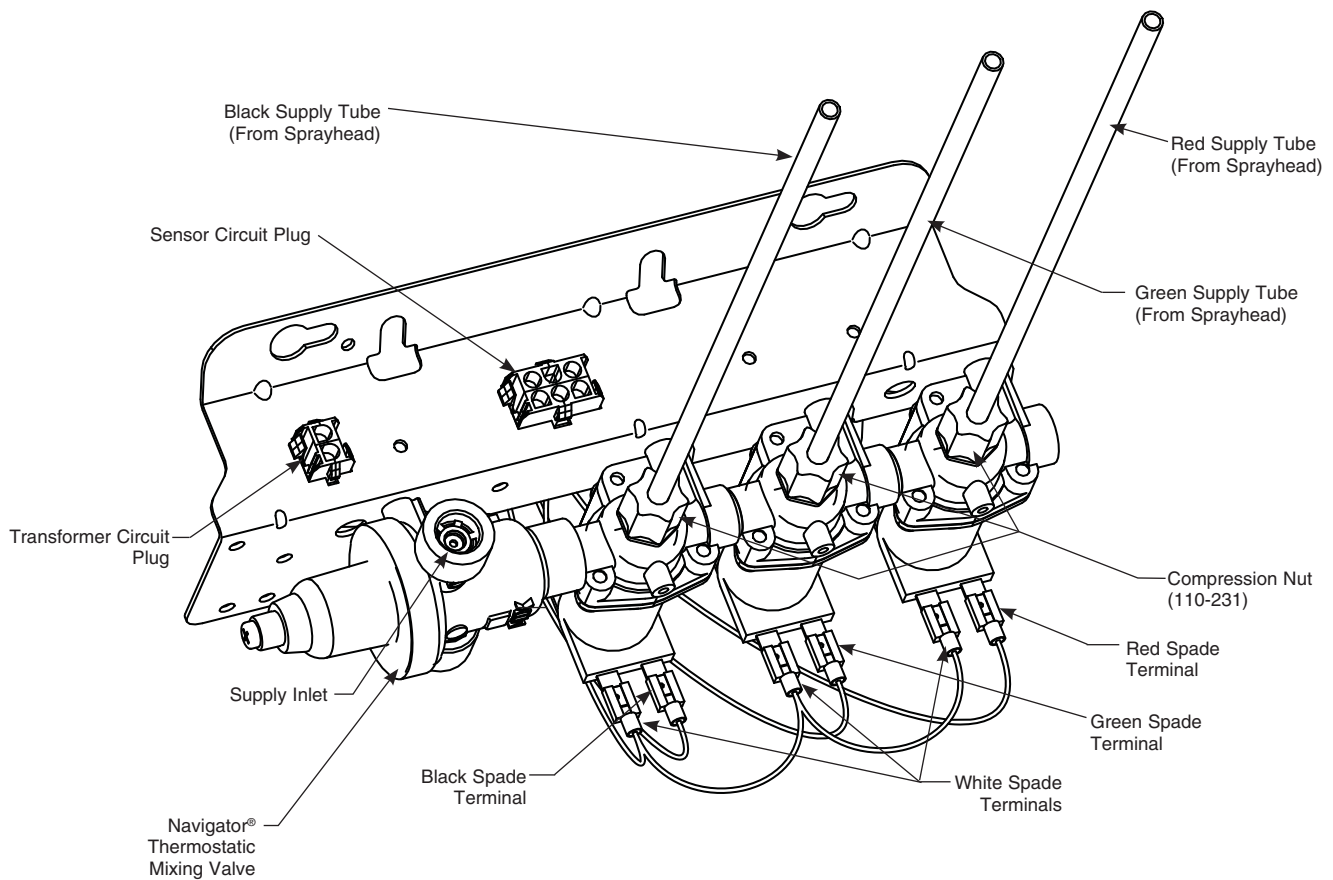

Figure 6b
*NOTE: Refer to Figure 6a below for CRS-2/IR or Figure 6b on page 8 for CRS-3/IR.*